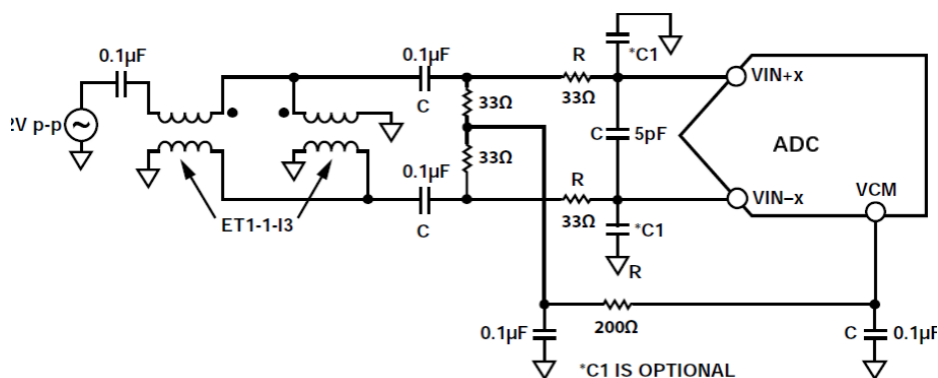
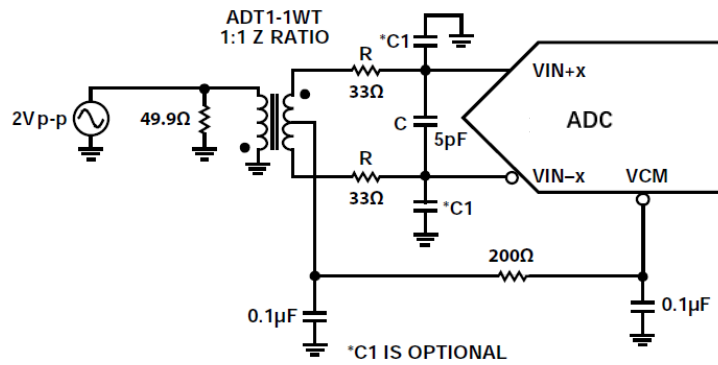

Figure 9 Differential dual balun input configuration (for baseband applications)
Figure 10 Differential transformer coupling configuration (for baseband applications)
Optimum performance can be achieved by driving the analog inputs differentially. For baseband applications, using a differential double balun configuration to drive the device provides excellent performance and a flexible interface for the ADC, as shown in Figure 9. In applications where SNR is a critical parameter, differential transformer coupling is recommended in the input configuration, as shown in Figure 10, because the noise performance of most amplifiers is insufficient to realize the true performance of the device. Regardless of the configuration used, the series resistor (R) and shunt capacitor (C) values depend on the input signal frequency. For high-to-mid frequency inputs, it may be necessary to reduce or even remove these components. Driving the device inputs in a single-ended manner is not recommended.